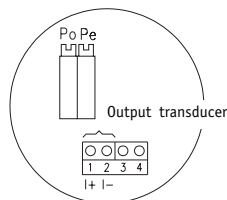

Fig. 5: Pin connection GP23/24 with Instrument transformer
- Connect strands to the clip terminals (fig. 5 and 6).